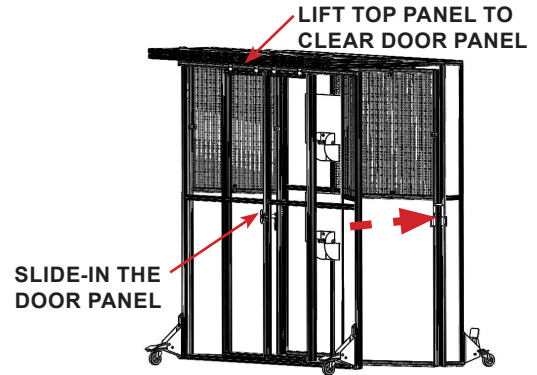

FIGURE 2.6 - Unfolding The Panels
STEP 2: Simultaneously (both sides) lift the top panel to clear the panels while pushing the side panels at the middle seam to clear the top panel pin. See FIGURE 2.6